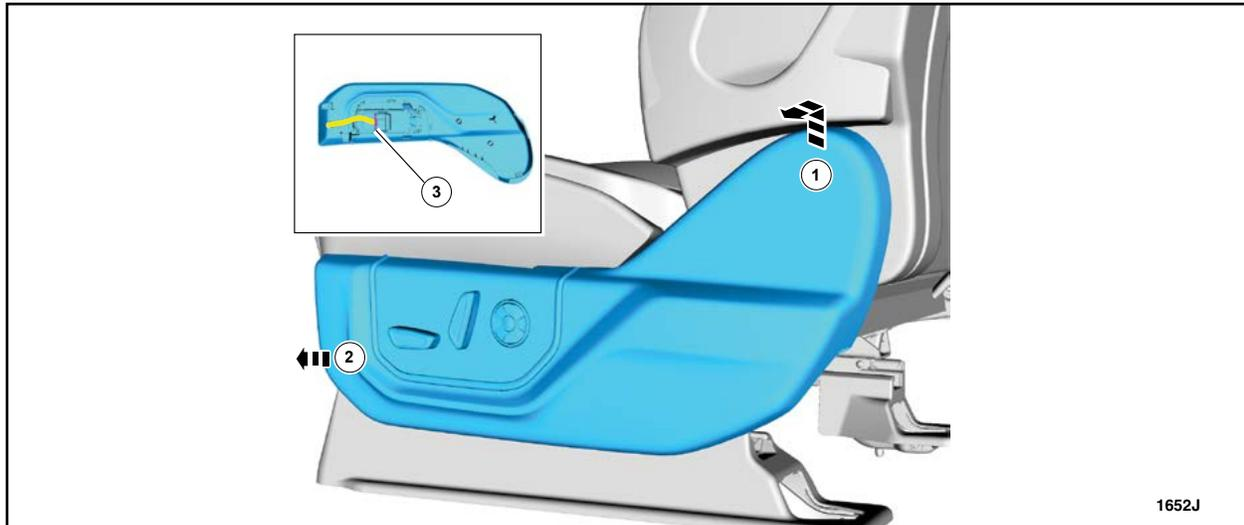

FIGURE 11
6. Remove the side shield. See Figure 11.